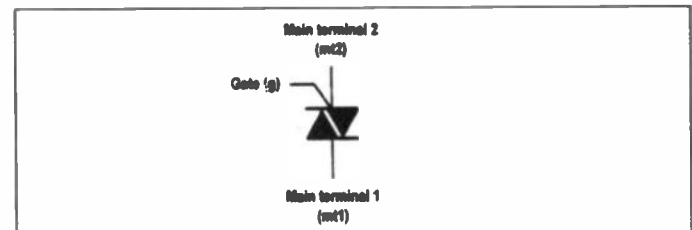

Fig.1 Triac connections
Triacs are a refinement of the thyristor which, when triggered, conduct on both positive and negative half-cycles of the applied voltage. Triacs have three terminals known as main-terminal one (MT1), main terminal two (MT2) and gate (G), as shown in Fig. 1. Triacs can be triggered by both positive and negative voltages applied between G and MT1 with positive and negative voltages present at MT2 respectively. Triacs thus provide full-wave control and offer superior performance in AC power control applications when compared with thyristors which only provide half-wave control.